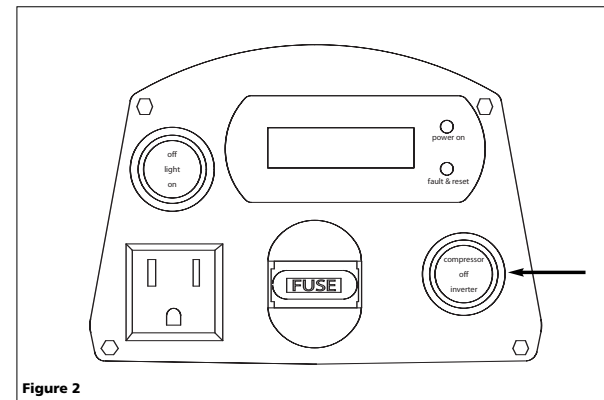

Figure 2
2. Turn COMPRESSOR switch on (see Figure 2).